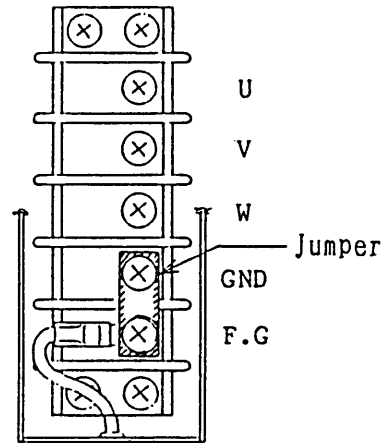

Figure 2-4A Disconnect F.G and GND
- o If it is necessary to make open between the F.G and GND terminals due to the above reason, disconnect the jumper from these terminals at the input terminal block of each power supply unit. (See Figure 2-4A.)